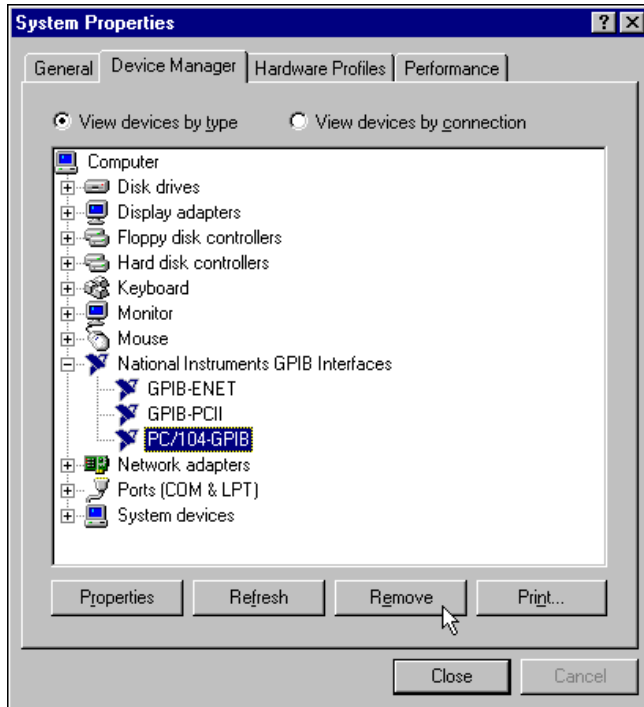

Figure A-1. Selecting the PC/104-GPIB
3. Select the interface you want to remove from the **National Instruments GPIB Interfaces** list, as shown in Figure A-1. Click on the **Remove** button to remove the hardware information.